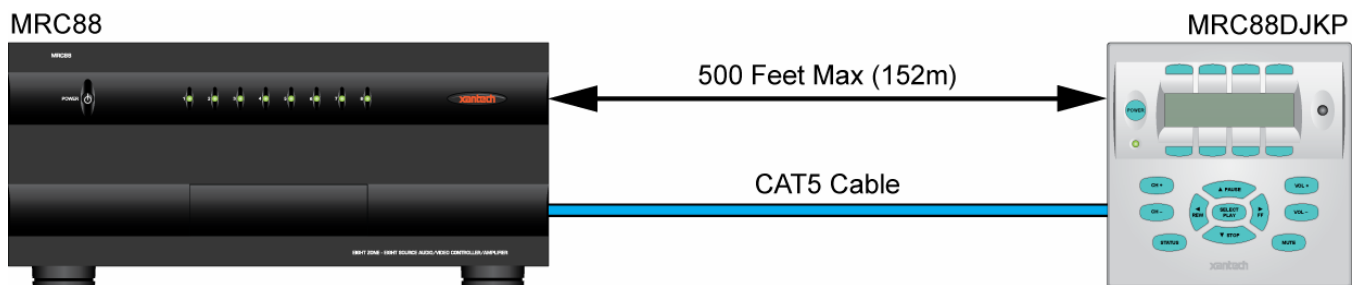

**Figure 3 – Installing the MRC88 Keypad**
To mount the Keypad, use a plastic, dual-gang, new construction or retro fit J-box and the included MRC88 Keypad Mounting Bracket as shown in **Figure 3**. **NOTE:** Do not mount the Keypad in the same box with high voltage (AC) devices. This can interfere with system performance and is a violation of building/electrical code in most places.
2. Firmly snap the keypad into the Keypad Mounting Bracket. (Figure 3)